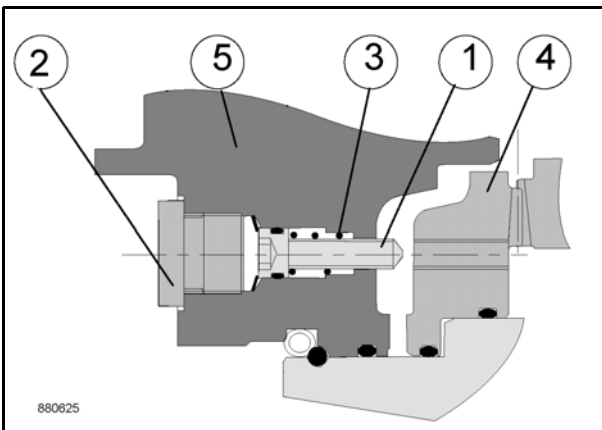

Fig. 11
17. Completely release both screws 1 (Fig. 11) to close the brake.